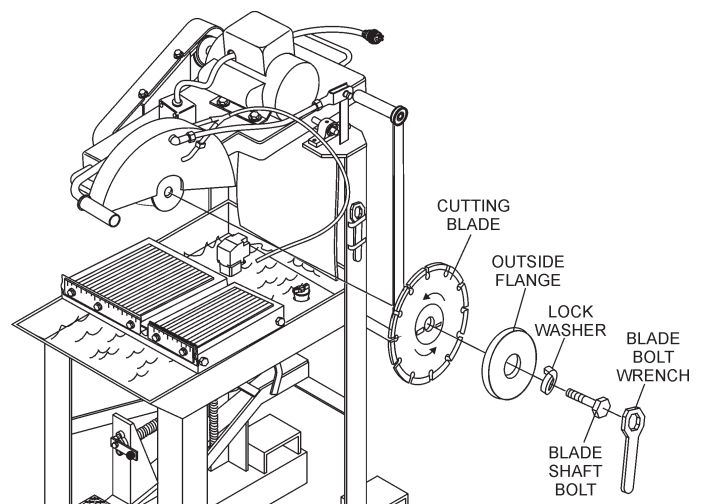

Figure 10. Blade Placement
1. Use the **blade bolt wrench** (Figure 10) supplied with the saw to install the cutting blade.
Connecting the Power (Figure 10)